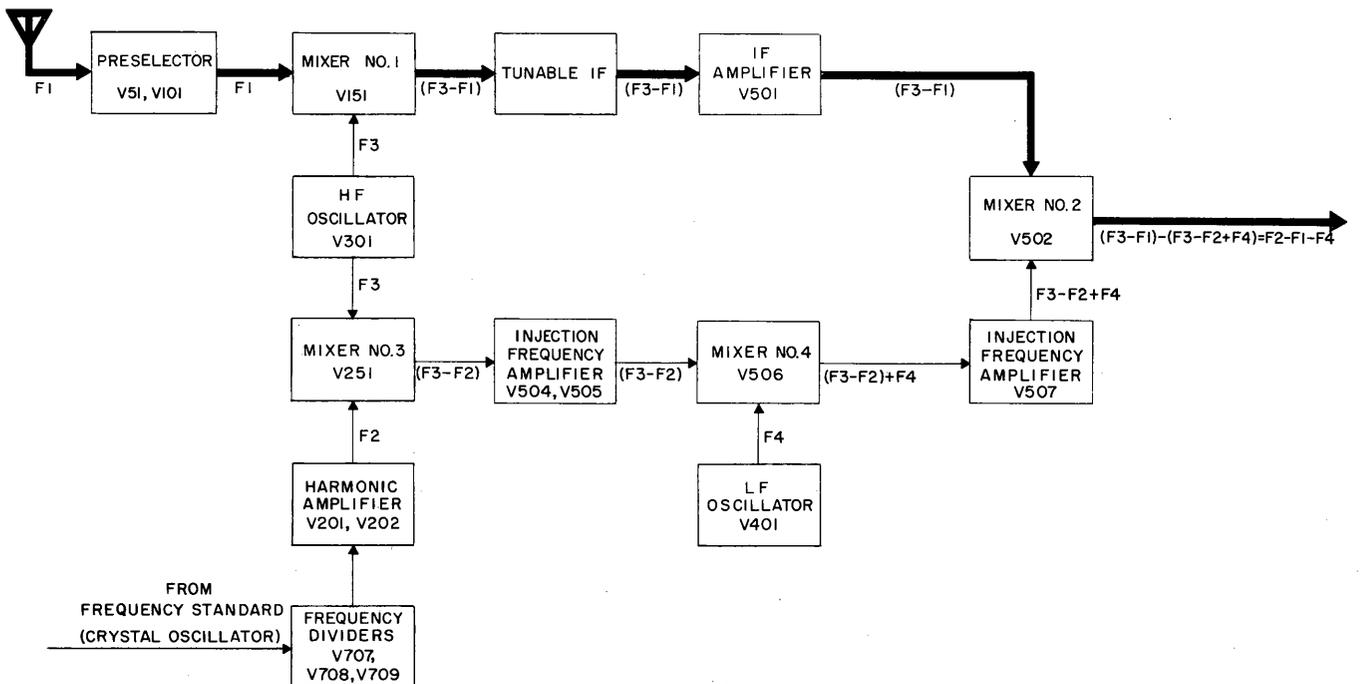

Figure 4-54. High Frequency Oscillator Drift Cancellation, Block Diagram
b. HIGH-FREQUENCY OSCILLATOR. (See figure 4-54.)—Initial frequency conversion takes place in mixer stage V151 by the combining of signals from the pre-selector (F1) and HF oscillator V301 (F3) to produce a difference frequency of F_3 minus F_1 . This signal is passed through the tunable IF section and IF amplifier stage V501 to mixer stage V502 for a second conversion. Without drift compensation, the latter mixer stage would ordinarily receive another signal from a second local oscillator to establish the desired second conversion frequency. This procedure, while effecting the desired conversion, in no way compensates for variations in the frequencies of the local oscillators involved, the result being corresponding variations in the difference frequency of the converted signals. To counteract this effect, the output of HF oscillator V301 (F3), besides combining with the incoming signal (F1) in mixer stage V151, mixes with a second signal originating in a crystal-controlled oscillator. This second signal is modified by frequency dividers, harmonic generator, and harmonic amplifiers to bring it to the proper frequency
Figure 4-54 indicates symbolically the frequency differences relative to signal inputs to the various mixer stages. By means of the loop arrangement, of which the HF oscillator (V301) is a part, any variation in its frequency output is transmitted equally and in the same sense to the two legs of the loop. Therefore, the difference frequency produced in common mixer stage V502 (by mixing of the signals from the legs of the loop) does not contain HF oscillator component F_3 . Elimination of F_3 from the output of V502 is equivalent to nullification of the effect of drift that could be caused by the presence of this signal.